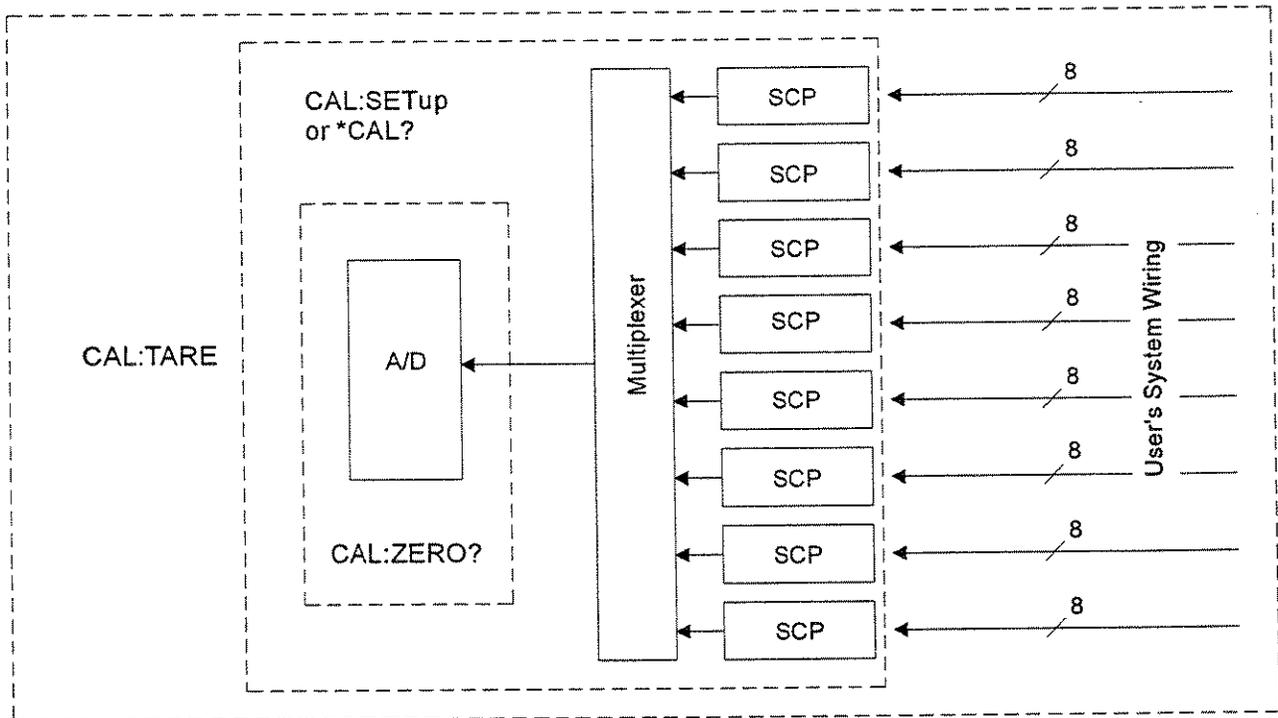

Figure 5-2. Levels of Working Calibration
2. “Working Calibration”, of which there are three levels (see Figure 5-2):